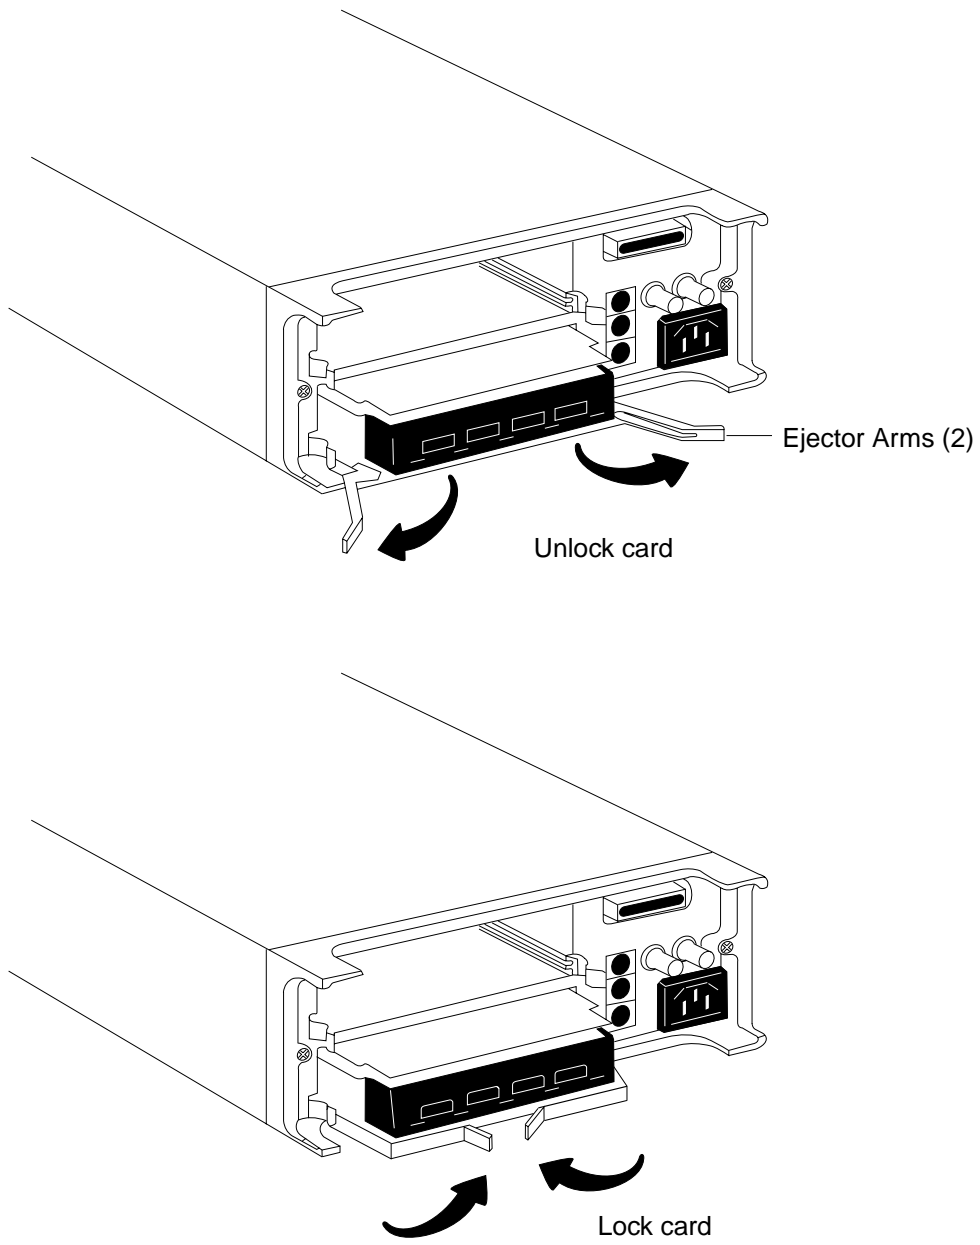
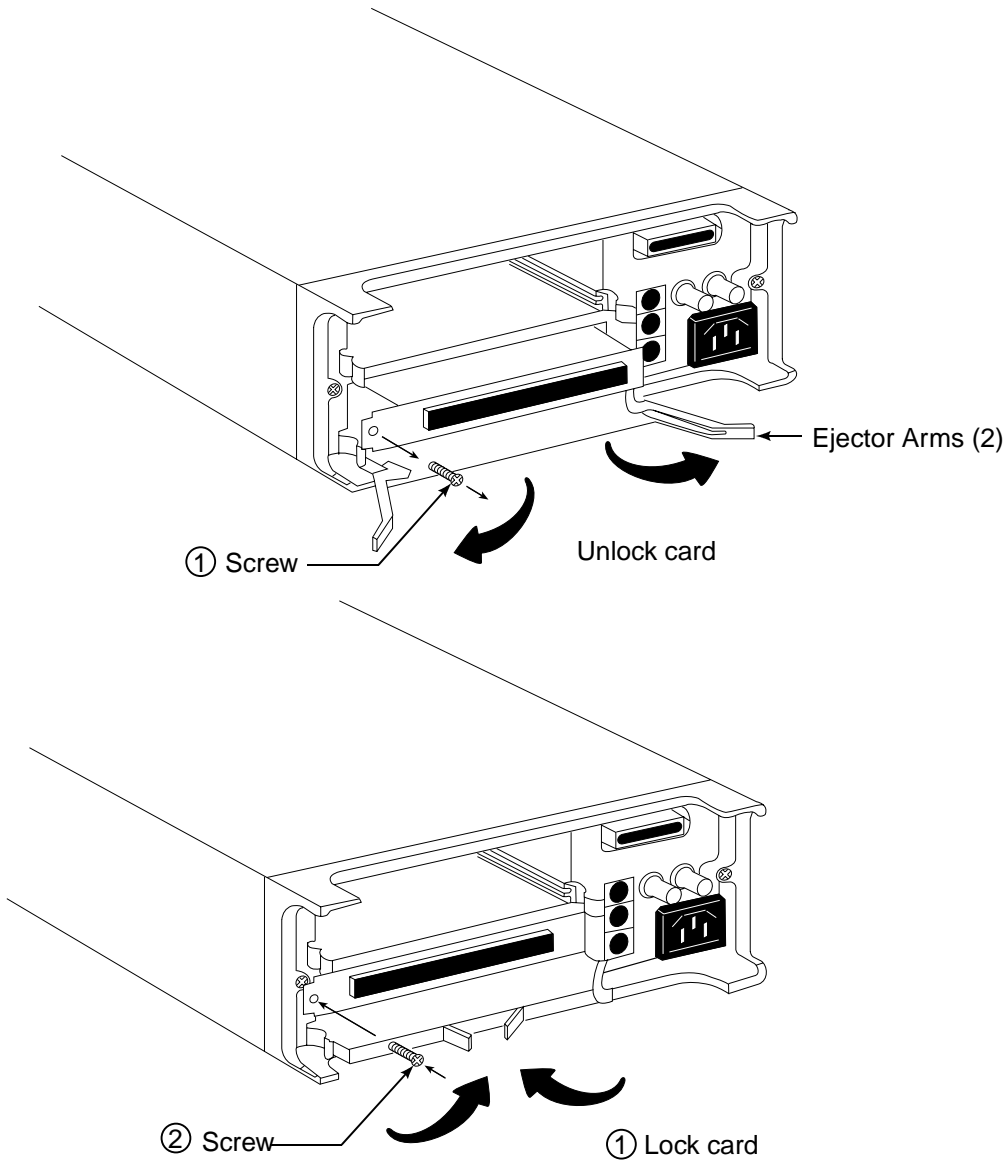

Figure 3-10
Figure 3-11
3. Referring to Figure 3-10 for Model 7013-S installation or Figure 3-11 for Model 7013-C installation, feed the switch card assembly into the desired slot such that the edges of the relay card ride in the rails.
5. For the 7013-C, also install the screw shown in Figure 3-11.